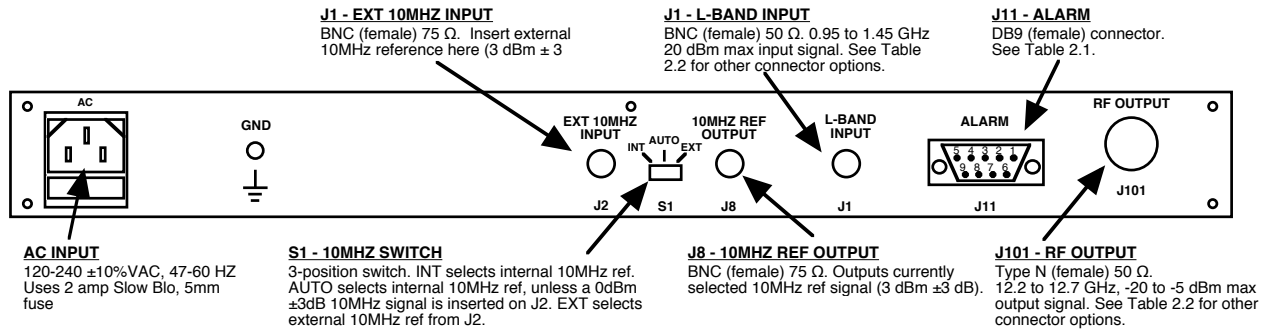

FIGURE 2.1 2115-122 Rear Panel I/O's
2.2 Rear Panel Input/Output Signals - Figure 2.1 shows the input and output connectors on the rear panel.
1. Connect a -20 dBm to -5 dBm 0.95 to 1.45 GHz signal to L-BAND INPUT, J1 (Figure 2.1).
5. Select either INT (for internal 10MHz ref), AUTO (for internal 10MHz ref UNLESS a external 10MHz, +3 dBm signal is connected to J2), or EXT (for external 10MHz, +3 dBm ref that is inserted at J2) on rear panel switch S1 (Figure 2.1).
7. Check that a 10MHz, +3 dBm \pm 3 dB signal is present at the 10MHZ REF OUTPUT (J8) (Figure 2.1).